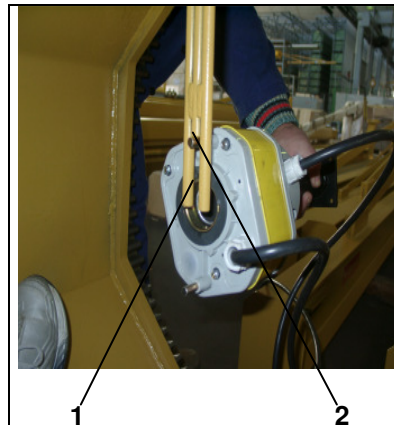

fig.44
3. Close the inspection cover taking care that in the fork **1** welded on the cover, the plug **2** is perfectly inserted. (fig.44)